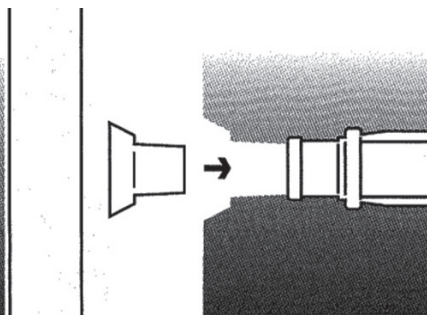

Fig. 7.5
4. After unscrewing the tie rod, close the hole in the concrete by glueing the fair-faced concrete plug into the hole. Use concrete glue (A + B). See Fig. 7.5.